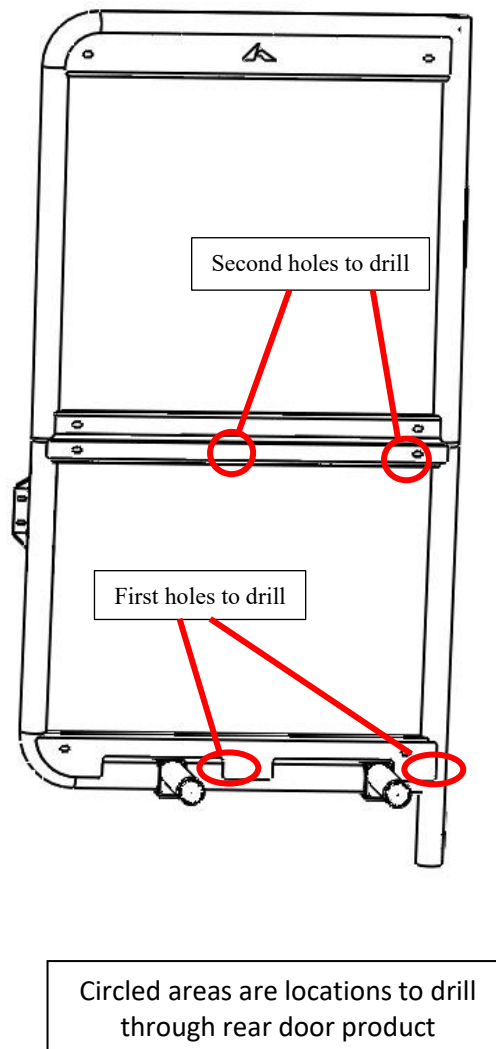
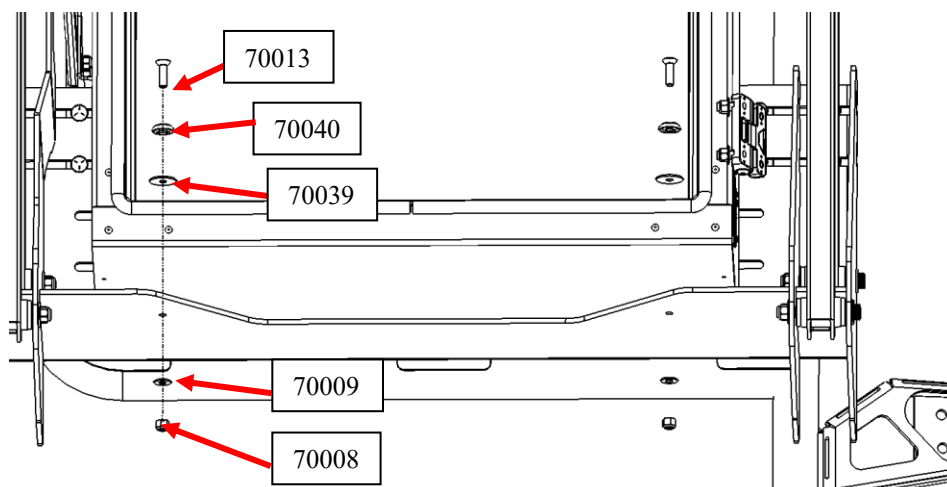

Figure 2: Drill and Bolt Locations for Rear Door Products
Figure 5: Lower Tray Drill and bolt locations for mounting box
- a. First - Two of the holes should be drilled through the bottom of the box and through the support stands (see Figure 2 for location).
- b. Second - The other two holes should be drilled through the back of the box and rear door product sheet metal support. (also seen in Figure 2).
10. For mounting the box to a Power Lift Bike Rack, first have someone hold the box in place while another person drills the mounting holes where hardware is inserted, as shown in Figures 5 and 6. Drill the two holes in the base unit, through the box, in the same spots as shown in Figure 2.
11. Using four ¼-20 x 1" Countersunk Bolts (70013) included in the Power Lift Hardware Kit, four ¼-20 Countersunk Washers (70040), four ¼-20 Fender Washers (70039), four ¼-20 Washers (70009), and four ¼-20 Nylock Nuts (70008), secure the box to the Power Lift Bike Rack through the mounting holes as shown in Figures 5 and 6.